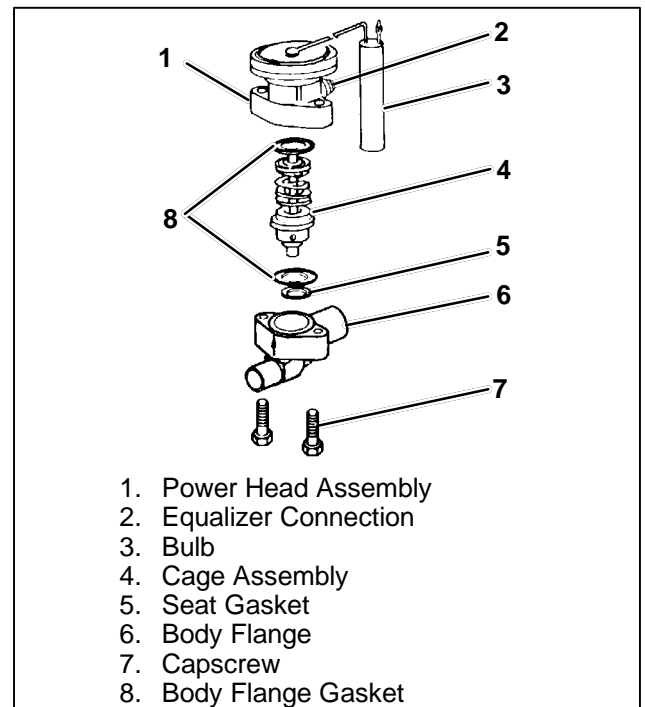

Figure 4-6. Thermostatic Expansion Valve
4.11.1 Replacing the Expansion Valve (See Figure 4-6)